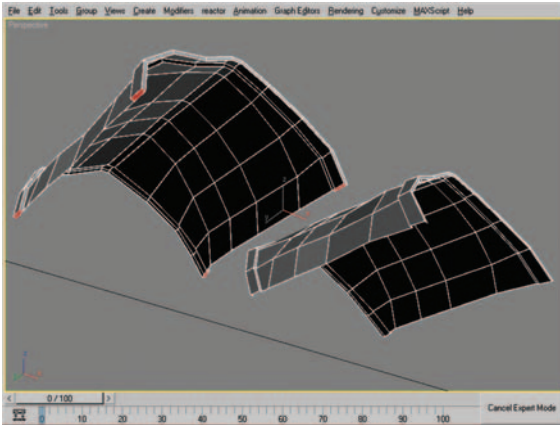

Figure 10.8 Polygon selection (left) and mesh after deleting polygons (right).
10. Select the four polygons seen in Figure 10.8 (left) and delete them (Figure 10.8, right).